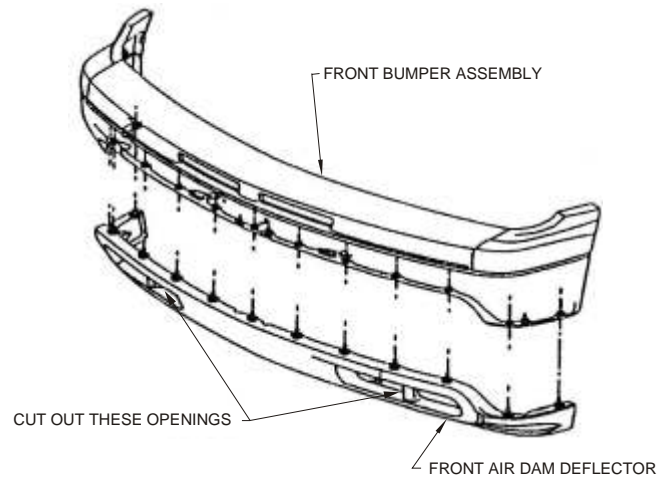

FIGURE 4
- STEP 10. Models with driving lights or tow hooks, slide bottom bracket into frame and attach using 1/2"-13 bolt, 1/2" lock washer, 1/2" flat washer and spacer plate. NOTE: On models without tow hooks or driving lights, an opening must be cut out in the two inside indents of the air dam using a utility knife. SEE FIGURE 4.